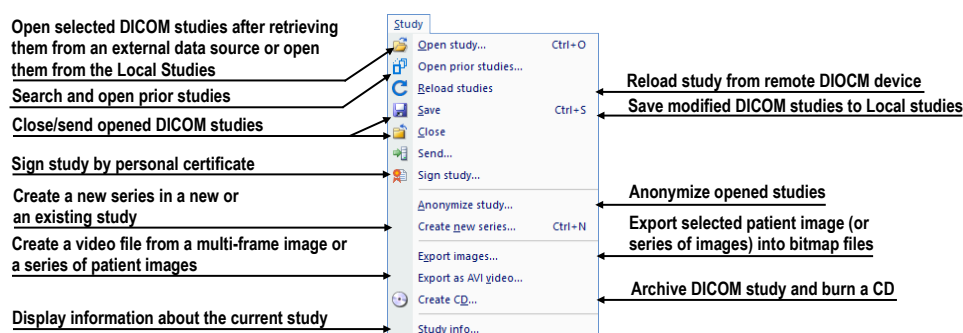

Figure 35 – Study menu
- **Study** – patient study operations (opening, closing, saving studies, anonymizing, burning and signing studies and exporting images, see Figure 35).